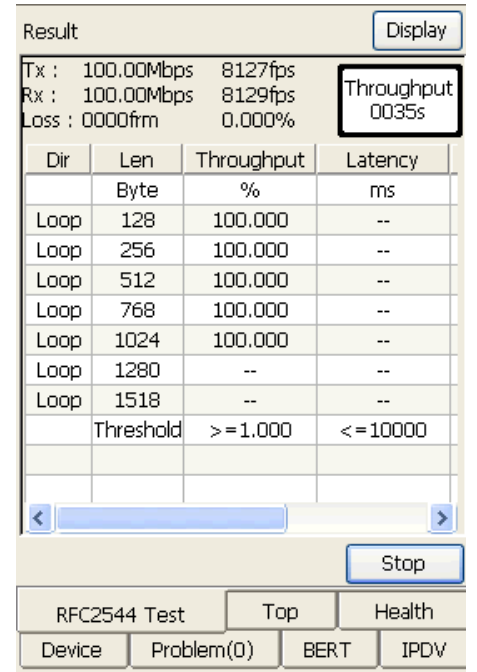

Figure 6.1.6 RFC2544 Test
Step3: The button will change to “Stop” if test starts, the testing process and the overview will be shown in the GUI, as shown in figure 6.1.6. You can stop it at any time.
As shown in figure 6.1.6, when the RFC2544 is running, the test procedure and the test data will be displayed in the GUI. Switch the tabs to check the different test items.